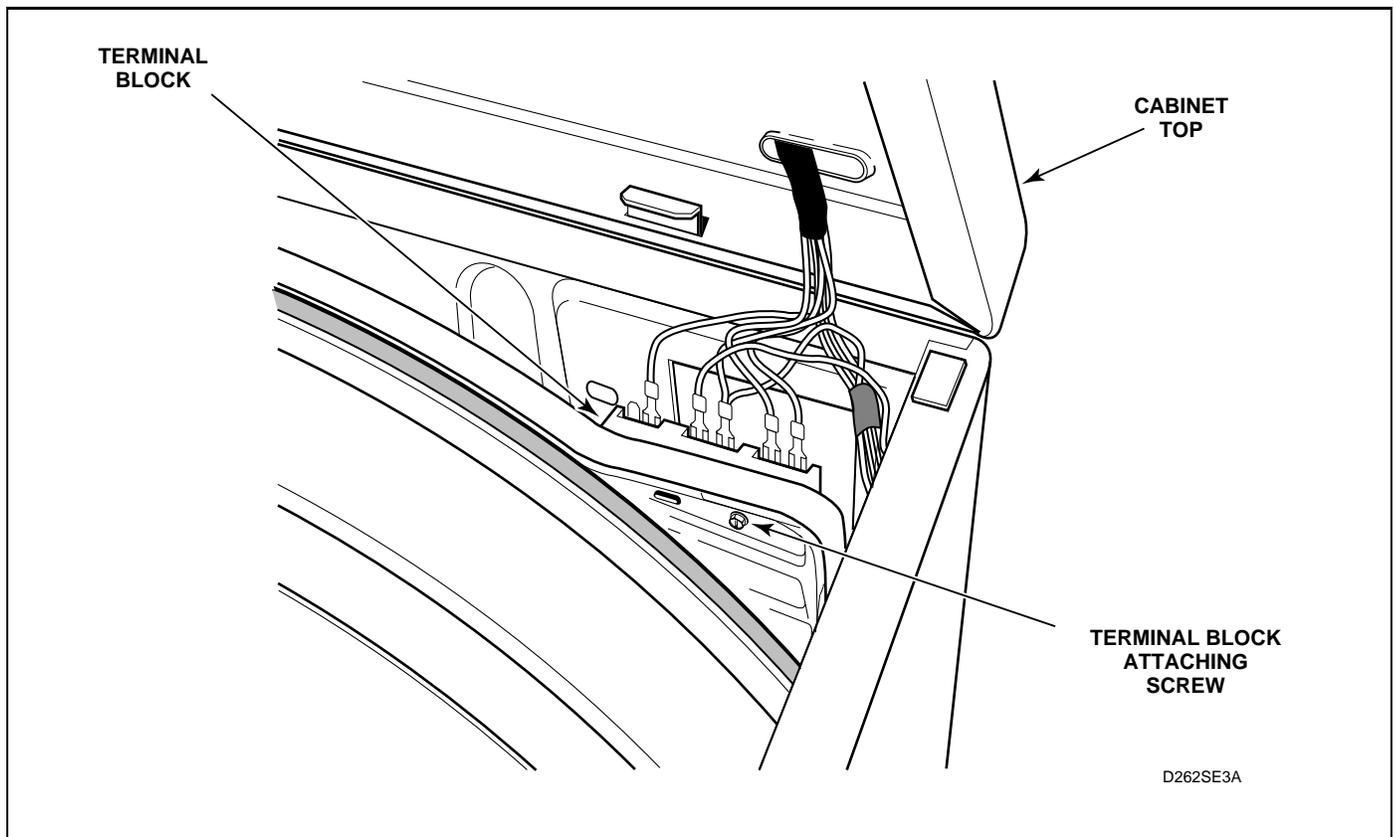

Figure 55
- (3.) Remove screw holding terminal block to rear bulkhead. See *Figure 55*.
- (8.) Remove screw holding terminal block to rear bulkhead. See *Figure 55*.
- (4.) Remove two screws from each rear cabinet top hold-down bracket. See *Figure 55*.